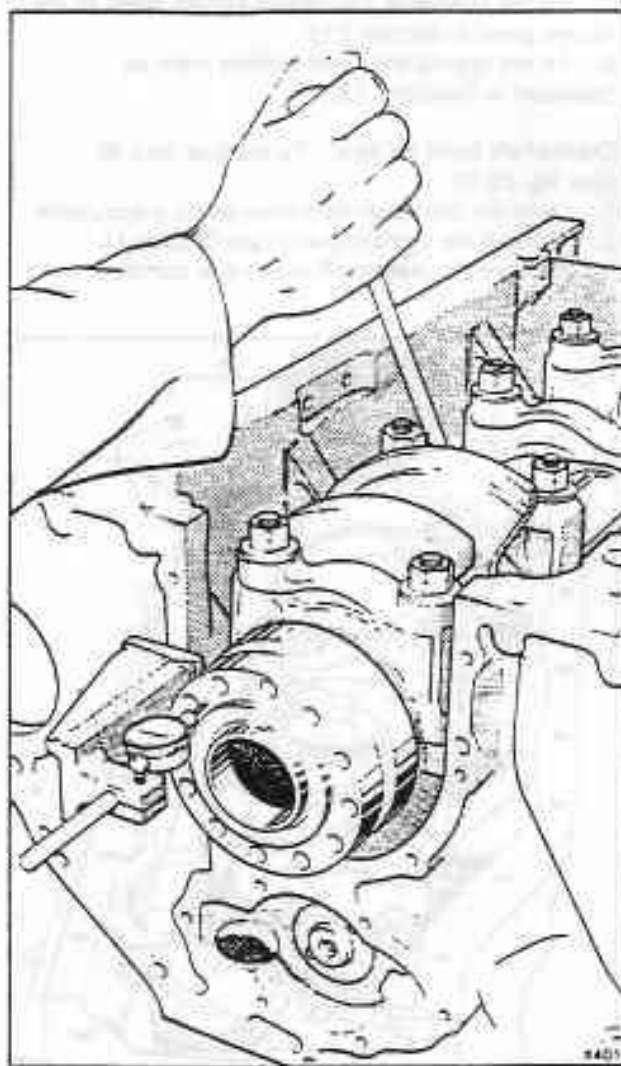

Fig. E5-8 Checking the crankshaft end-float
7. Check the crankshaft end-float as shown in figure E5-8. Refer to Section E3, Dimensional data.